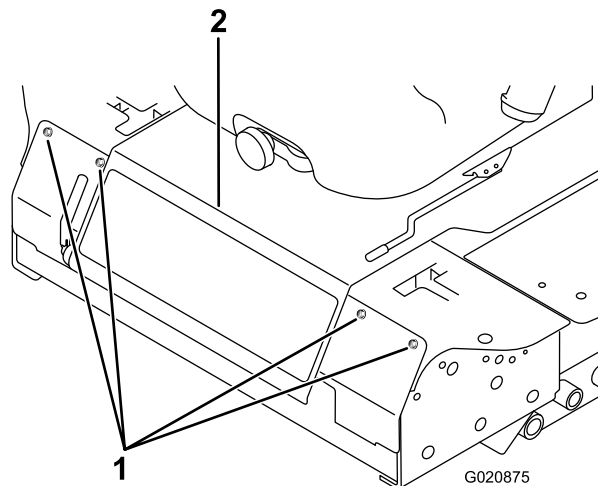

Figure 79
- Remove the bolts securing the front panel and remove the panel (Figure 79).